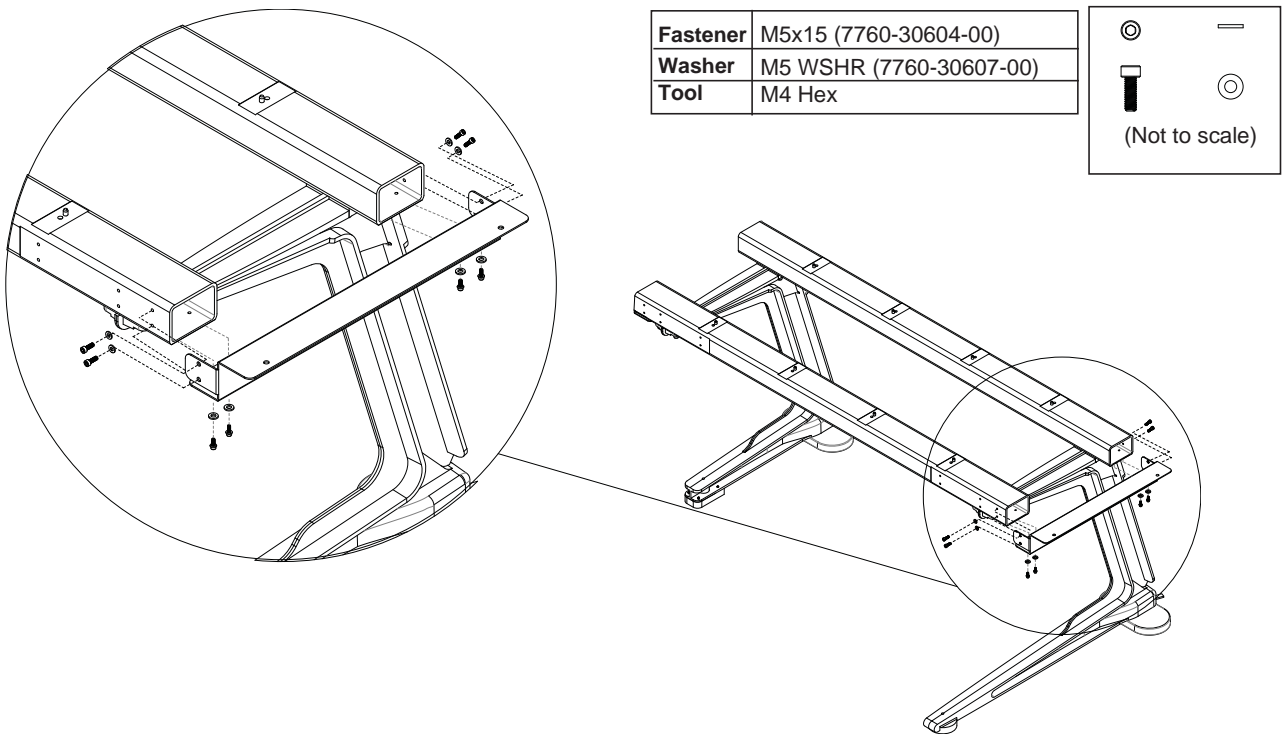

Figure 8. Front view of attaching an End Bracket to the right frame
- When assembling the right frame, attach an End Bracket as shown in Figure 8 (front view). Do not tighten the fasteners fully.